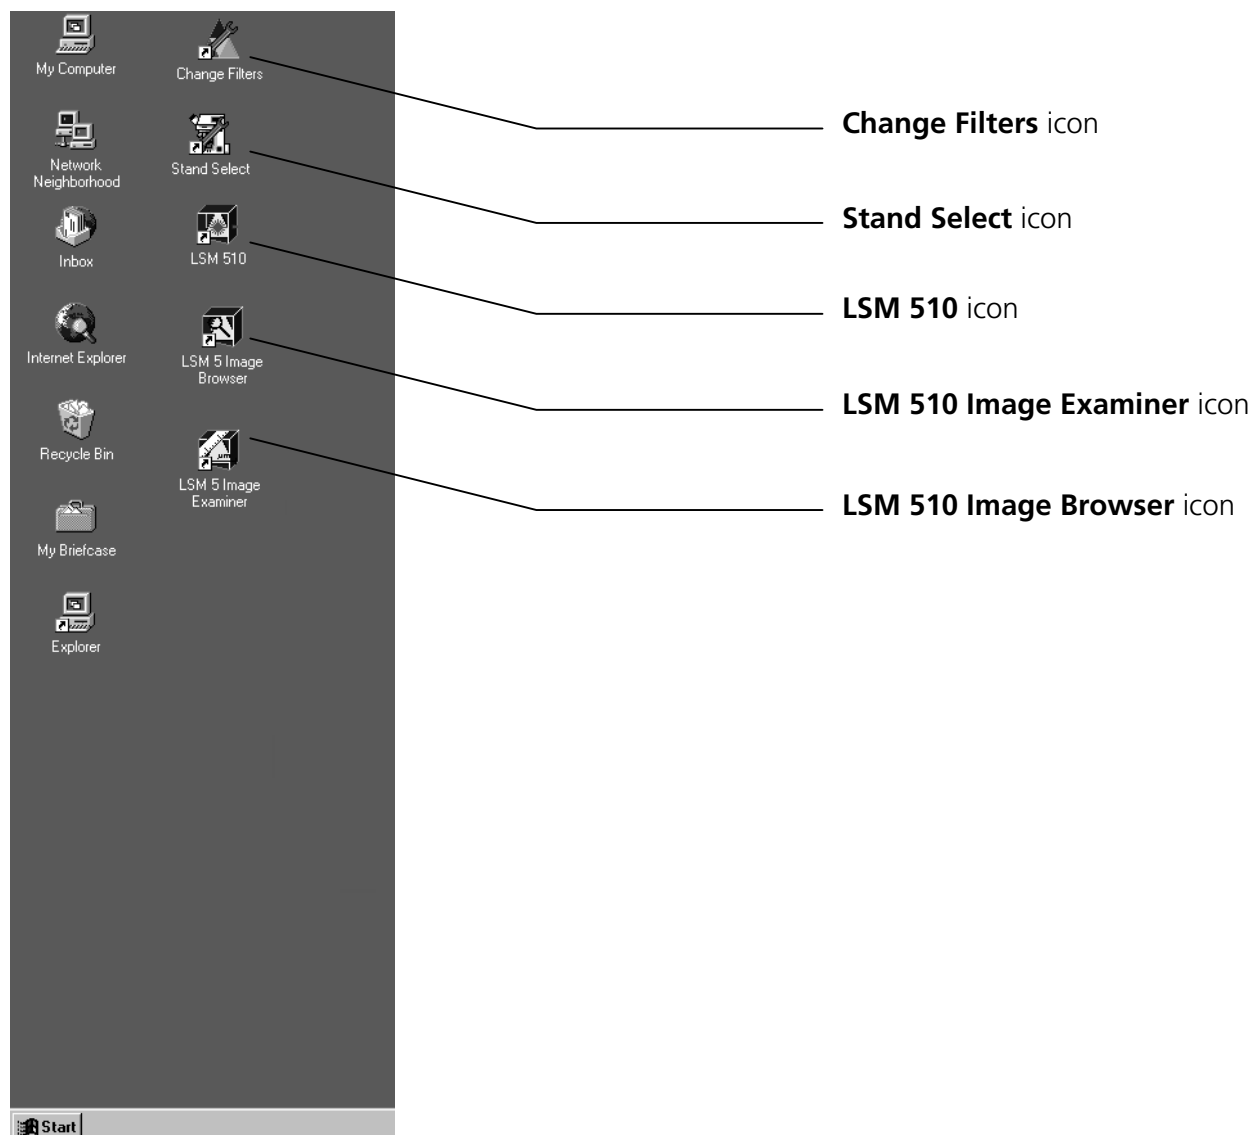

Fig. 4-5 **WINDOWS NT operating system desktop**
- Double-click on the **LSM 510** icon on the desktop of WINDOWS to start the LSM 5 software program (see Fig. 4-5).